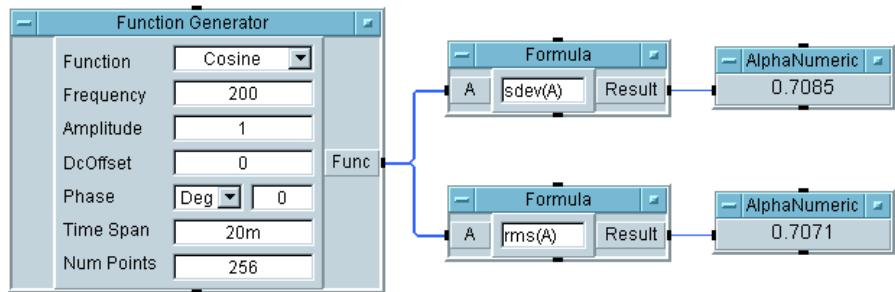

Figure 4-7. Formula Examples Using VEE Functions
5. Run the program. The program displays the same answers when these functions are put into the **Formula** object as it did when they were used as independent objects, as shown in Figure 4-7.